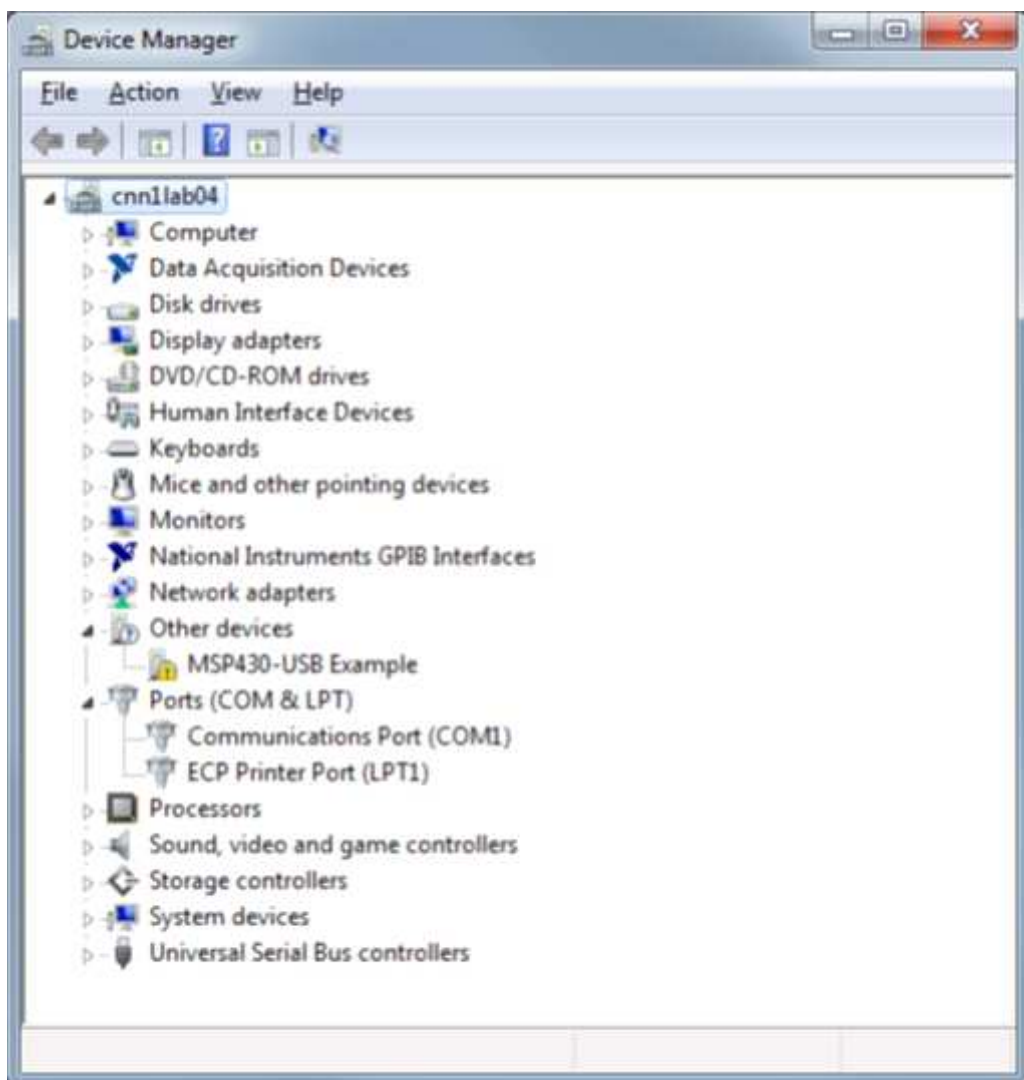

Figure 24. Update Driver Software
4. Before launching the LM63LM64LM96x63EVM software, connect the LM63LM64LM96x63EVM board to a USB port of your PC. Go to Device Manager and find “MSP430-USB Example” (see Figure 24). Right click and select Update Driver Software.